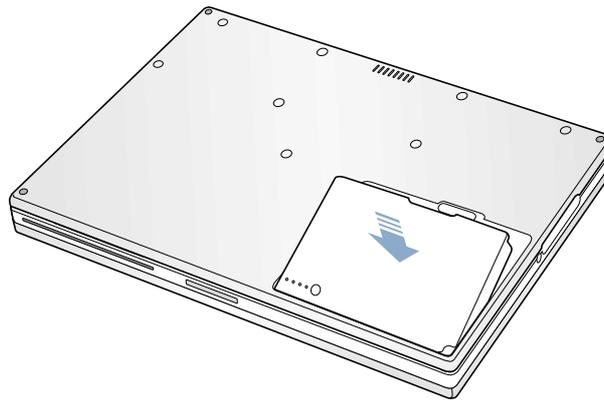

Figure 16
7. Replace the battery into the battery compartment (**Figure 16**).